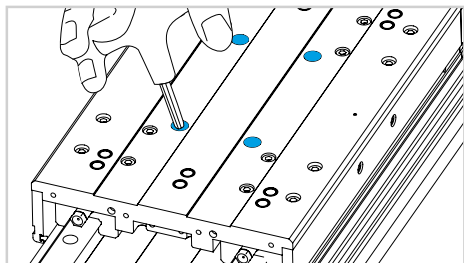

Fig. 7
- 8) Untighten and remove the 4 screws holding the inner part of the carriage (Fig.7)